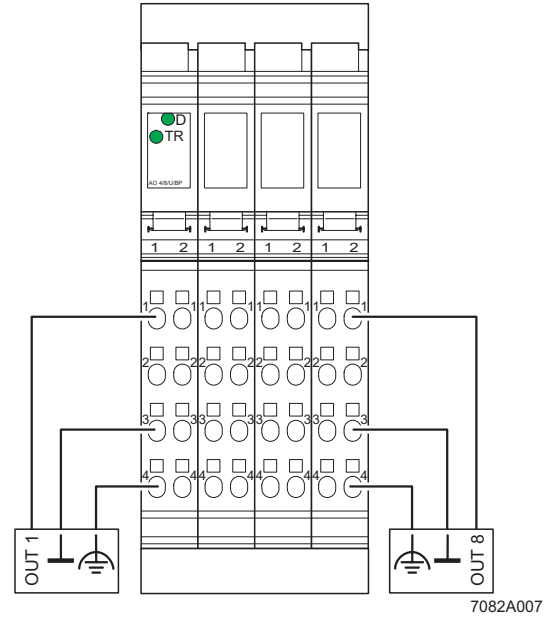

Figure 6 Connecting two actuators
**i** Use a connector with shield connection when installing the actuators. Figure 6 shows the connection schematically (without shield connector).